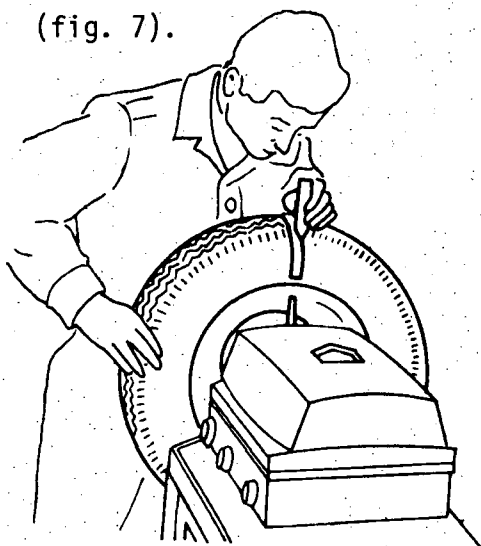

Fig. 6
- b) Mark the tyre with chalk where the meter indicates it (fig. 6).